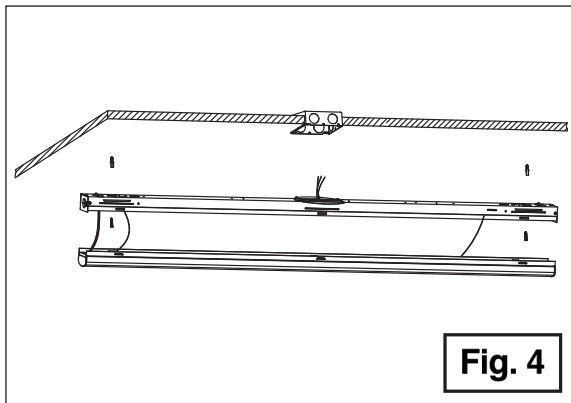

Fig. 4
4. Mount the Fixture housing to the ceiling with the drywall anchors and screws. **(Fig. 4)**
4. Turn on circuit breaker and test the light. **(Fig. 4)**